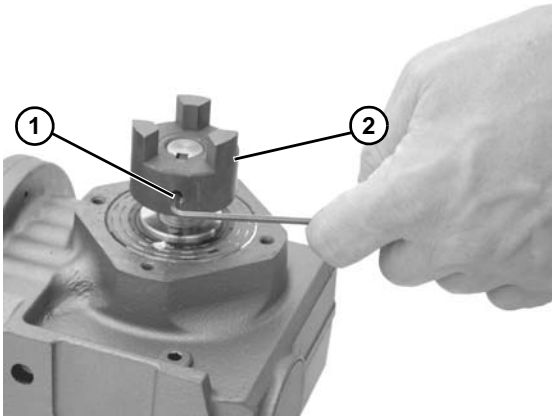

Figure 14
6. Loosen set screw (**Figure 14, item 1**) and remove 3 jaw coupling (**Figure 14, item 2**).